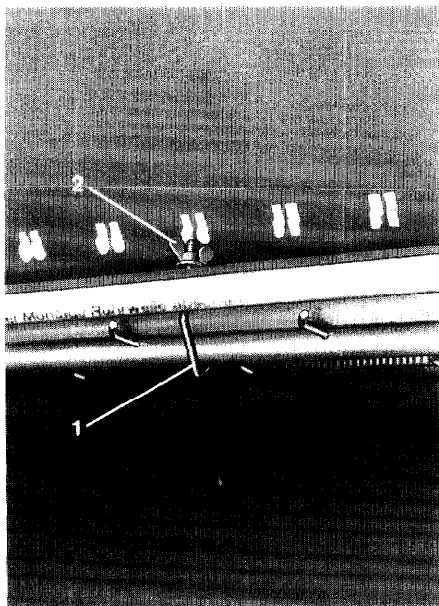

Fig. 50
- Mount each 2 hook bolts (Fig. 50/1, 51/7) in the middle of each insert between the agitator shaft and the rape seed insert box and tighten with wing nuts (fig. 50/2, 51/8).